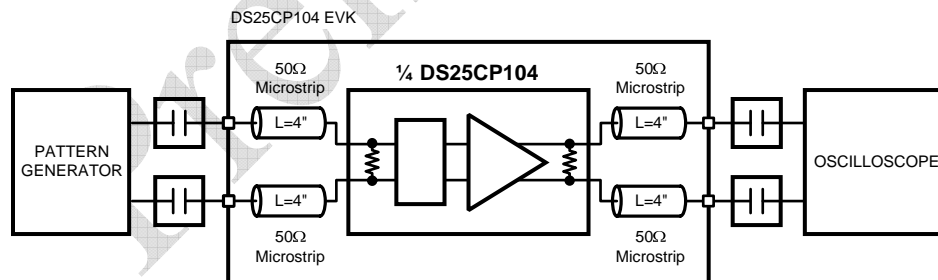

Figure 4. Jitter Performance Test Circuit
1. Configure the test setup as shown in Figure 4.